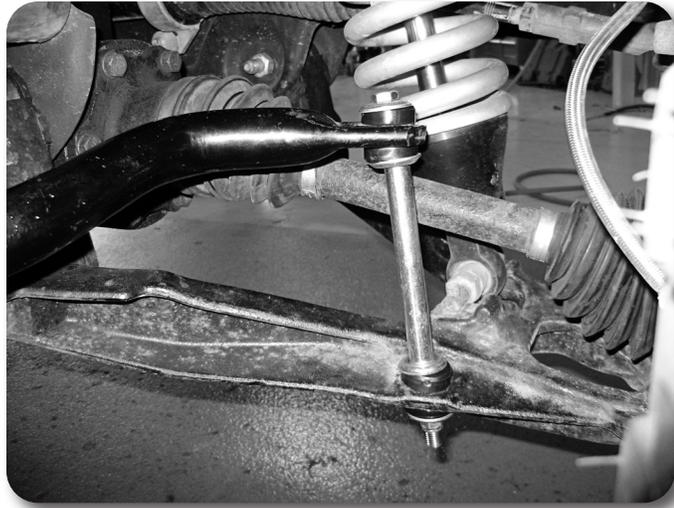

Figure 22
49. The new sway bar links will be built from a 5" sleeve, 3/8" x 9" bolt, bushings and cup washers. Attach these to the sway bar followed by the control arm with the bolt going from the top down. **Figure 22** Tighten the sway bar link until the bushings begin to form to the control arm surface.